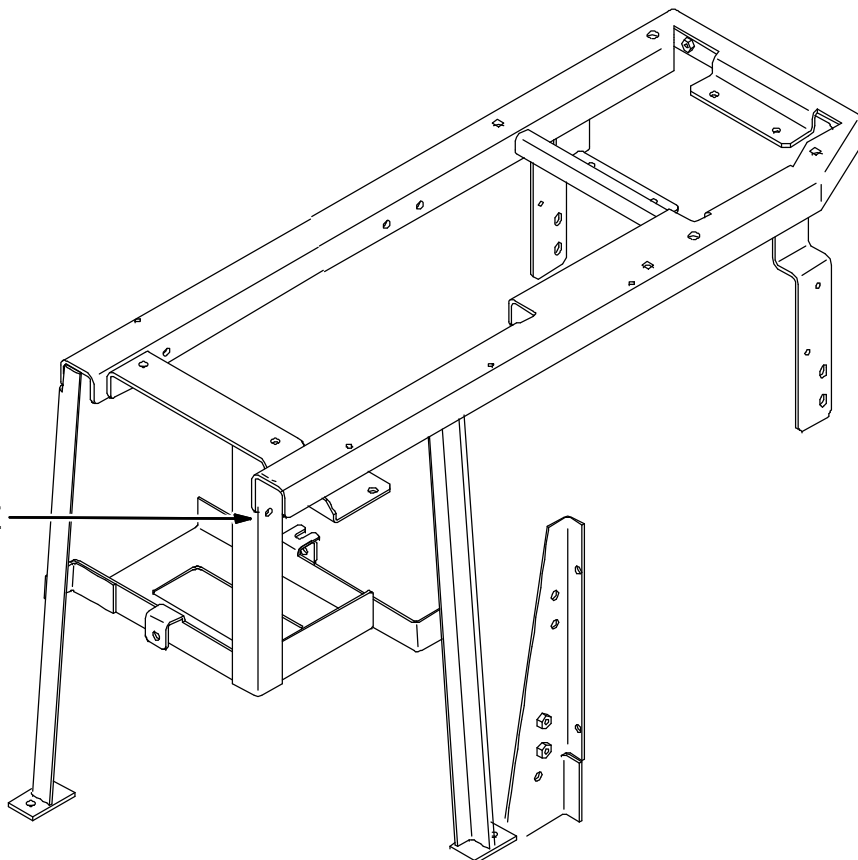

FIG. 3 - HOLE LOCATION FOR 382122
5. Locate the left front battery tray support angle (Refer to FIG. 3).